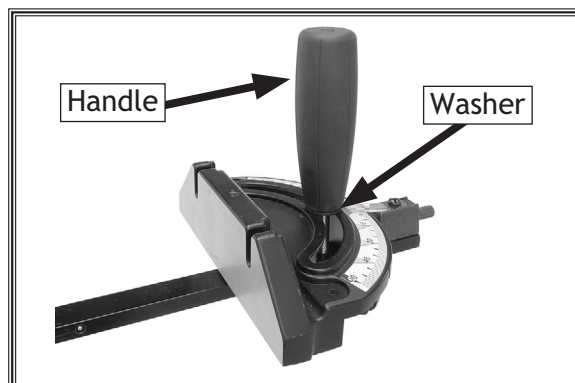

Figure 33. Miter gauge installed.
1. Install the miter gauge handle and 8mm flat washer onto the miter gauge as shown in **Figure 33**.